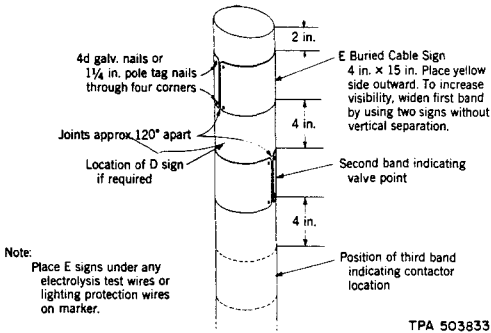

Fig. 13—E Buried Cable Sign Installed on Wood Post
5.10 The E buried cable sign is installed on the C sign post by wrapping around the post (yellow side outward) and driving 4 penny galvanized nails or pole tag nails through the four corners of the sign (Fig. 13).